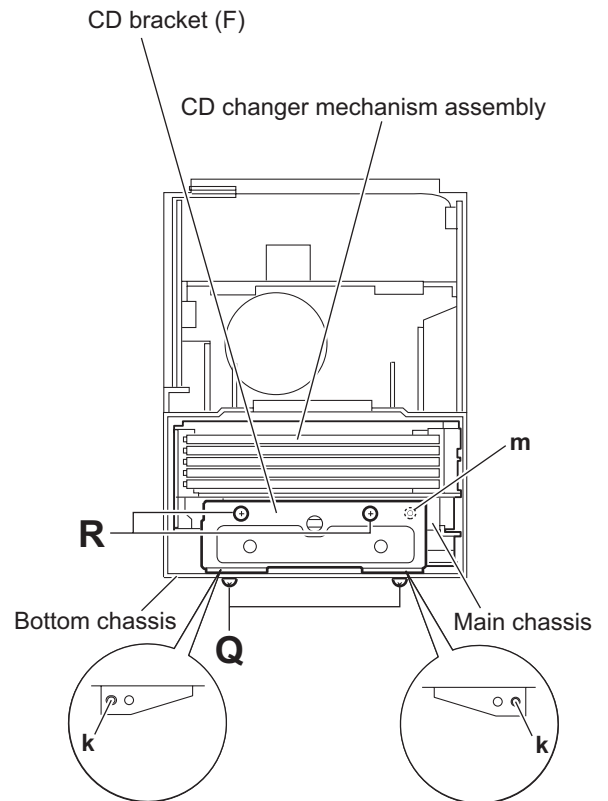

Fig.17
- (2) From the bottom side of the main body, remove the two screws **Q** attaching the CD bracket (F) to the bottom chassis. (See Fig.17.)
When attaching the CD bracket (F), align the projections **k** of the bottom chassis in the holes of the CD bracket (F). (See Fig.17.)
- (3) From the front side of the main body, remove the two screws **R** attaching the CD bracket (F) to the main chassis.
When attaching the CD bracket (F), align the projection **m** of the main chassis in the holes of the CD bracket (F). (See Fig.17.)